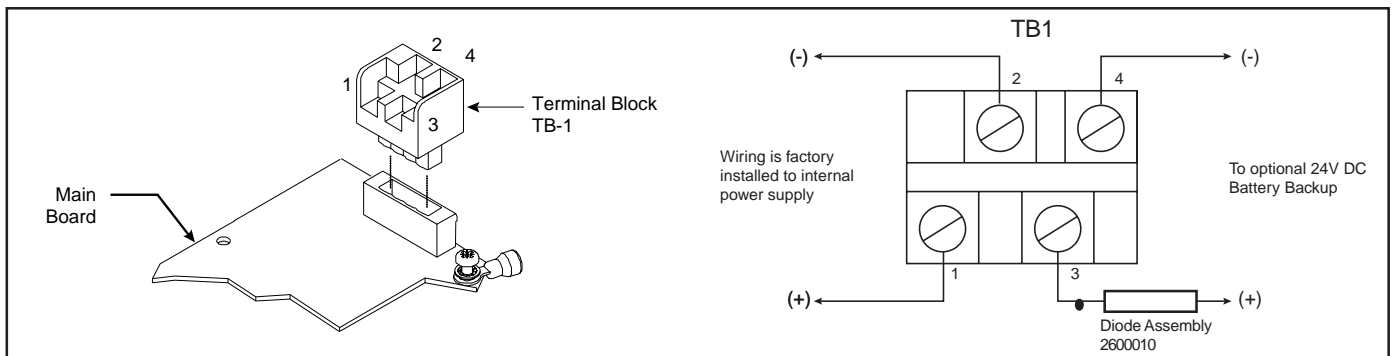

Figure 2. Wiring to Terminal Block TB-1
3. Wire as follows referring to Figures 2 through 5:
- e. Connect incoming power to wire leads using a butt splice or other method listed, certified, or otherwise approved by local authorities. Leads are black for line and white for neutral. See Figure 2.
NOTE: Terminal Block TB1 can be unplugged from the main board to complete wiring as shown in Figure 2.